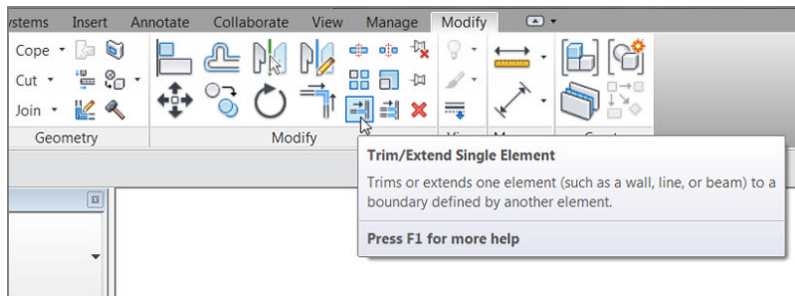

FIGURE 4.44: Click the Trim/Extend Single Element button on the Modify tab.
3. On the Modify tab, click the Trim/Extend Single Element button, as shown in Figure 4.44.